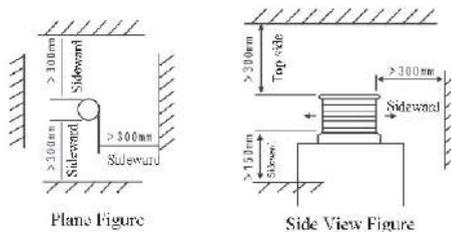

Fig. 11
e. The top of the exhaust pipe must be equipped with a windproof, snowproof and rainproof hood. Its position should not be in the wind pressure belt. Its distance from the surrounding buildings and its openings, as well as the fire safety distance should meet the requirements of the following(Fig.11).